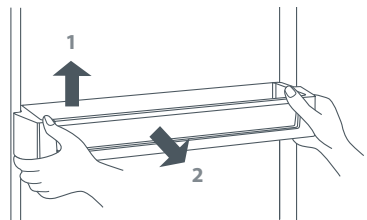

Fig.30 Door shelves
- To remove the door shelf, lift the shelf up and pull straight out (Fig.30).